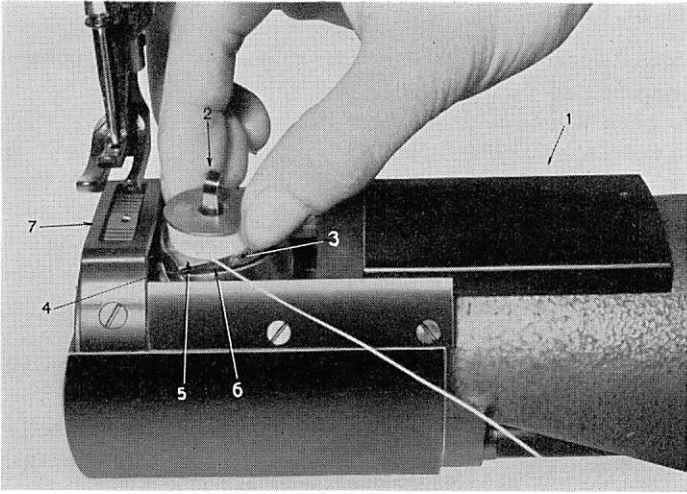

Fig. 8
INSERTING AND REMOVING BOBBINS (Figs. 8 and 9)
1. Raise the needle bar to its highest point. Push open the right-hand cover plate (1, Fig. 8) on the arm of the machine.
Pull up the latch (2, Fig. 8) and lift the bobbin from the bobbin case.
Pull the thread into the slot (3, Fig. 8) inside of the bobbin case and to the left between the bobbin case opener (4, Fig. 8) and a projection (5, Fig. 8) and under the tension spring (6, Fig. 8).